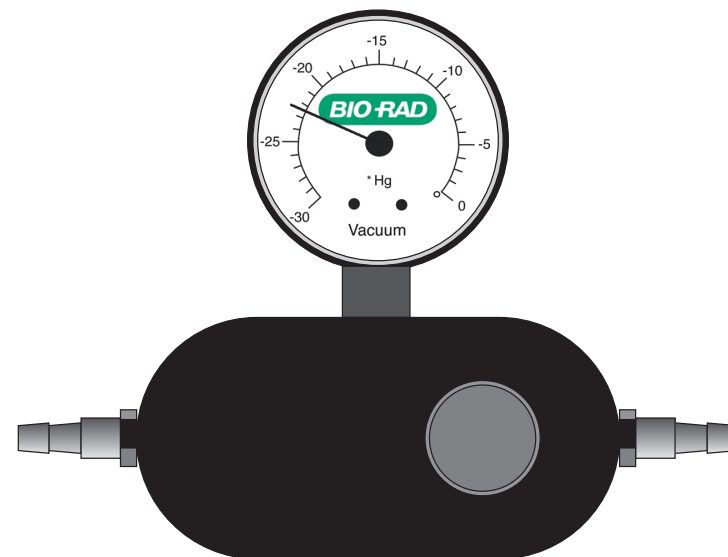

Fig. 2. Vacuum regulator with clear representation of the gauge
- The recommended operating range is -20 to -23 inches of mercury (\" Hg). Do not exceed -25\" Hg when performing this protocol. A vacuum regulator is required to establish the appropriate vacuum pressure (Figure 2).